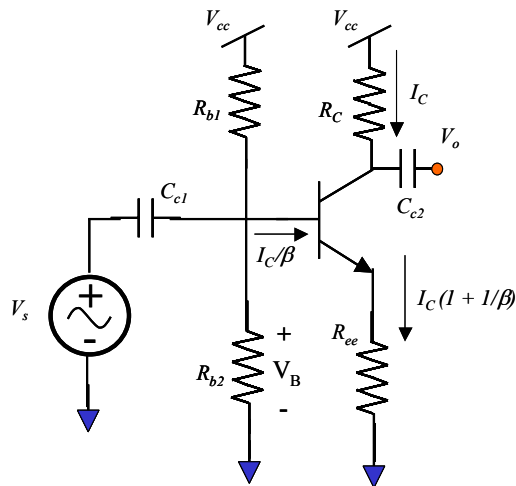

Figure 8-10: Schematic diagram of the common emitter amplifier for Prelab question 2
- 2) Using the results from Prelab questions 4 and 5, and laboratory exercise 5 of laboratory experiment #7 for the design of a common-emitter amplifier with emitter degeneration resistance (**Figure 8-10**), design the amplifier to get a small signal gain magnitude of 7. The specifications remain the same as in laboratory experiment #7 Pre-lab question 4, namely, $I_c=2.5$ mA, $V_{CE}=5V$, base voltage, $V_B= 1V$, power supply, $V_{cc}=10V$, and $R_{b2} = 4.7$ k Ω . Your job is to choose the correct resistor values that determine the biasing point and correct gain magnitude. Assume that V_s is a 10 kHz sine wave input with amplitude of 50 mV (100 mV peak-to-peak). Be sure that your signal doesn't drive the transistor out of the linear region. Verify your design using HSpice. Is it possible to meet the required specifications? If, not why not?
- 5) Place a large (e.g., 0.1 μF) capacitor across resistor R_{ee} in **Figure 8-10** in the previous problem. By inspection, can you reason what happens to the gain and why? Perform an HSpice simulation to confirm your reasoning.
- 3) Keep the circuit from the previous problem, but replace R_C in **Figure 8-10** with a potentiometer. Vary the potentiometer until you reach the maximum achievable gain while still maintaining a collector-base reverse bias to ensure linearity. Measure the value of the potentiometer that gives you the maximum possible gain. Does this value agree with what you derived in Pre-lab question 4? Why or why not?